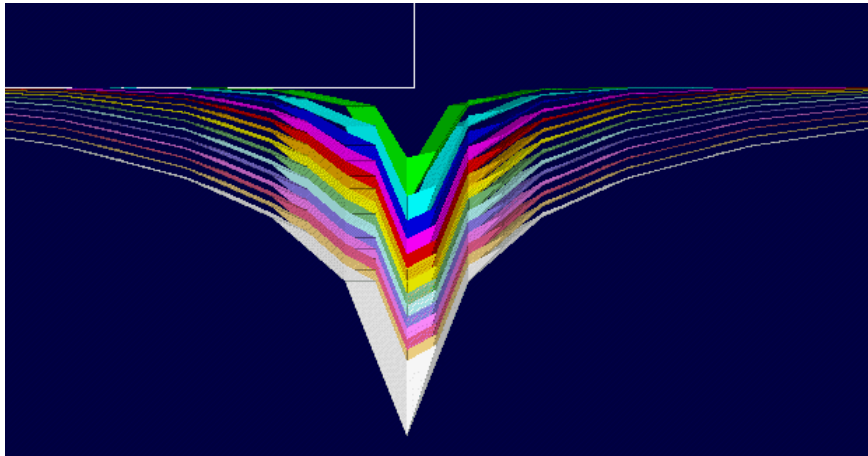

Figure 5: Section view of hydrogeological models from Modflow in ENVISAGE.
- Display the extent and flow of aquifers in 2D and 3D (Fig. 5)